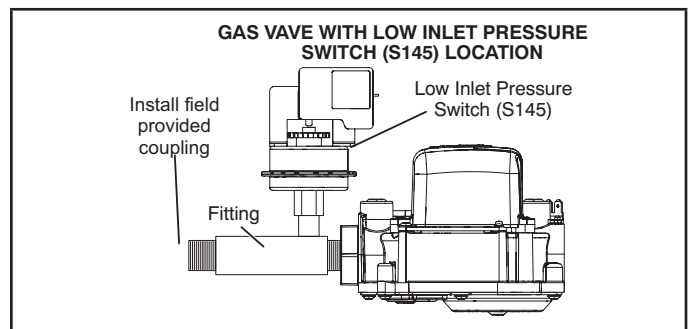

FIGURE 3
- 9 - Thread the gas supply to the fitting until hand tight. A field provided coupling may be needed. See figure 3. Using properly sized wrench to support fitting, tighten supply line into fitting 2 to 3 full turns to achieve leak free joint.